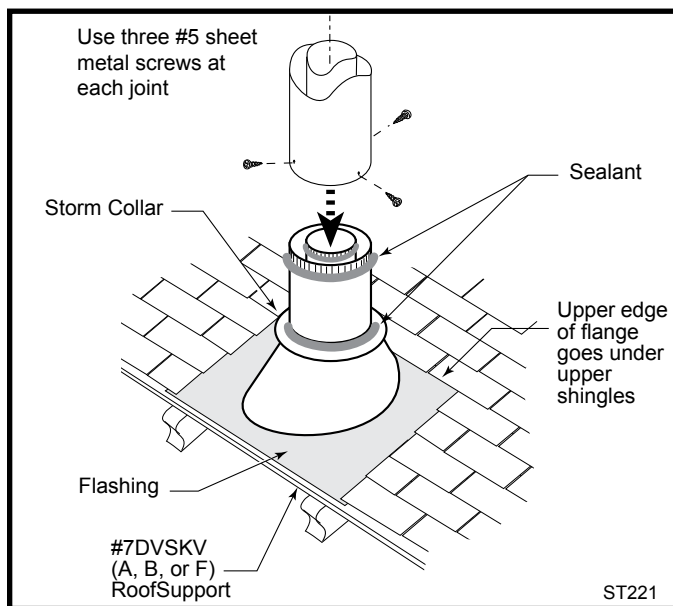

Figure 32 Roof support and flashing.
7. Install the appropriate roof support and flashing, making certain that the upper flange of the flashing base is below the shingles. (Figure 32)
9. Install the storm collar and seal around the joints. (Figure 32)